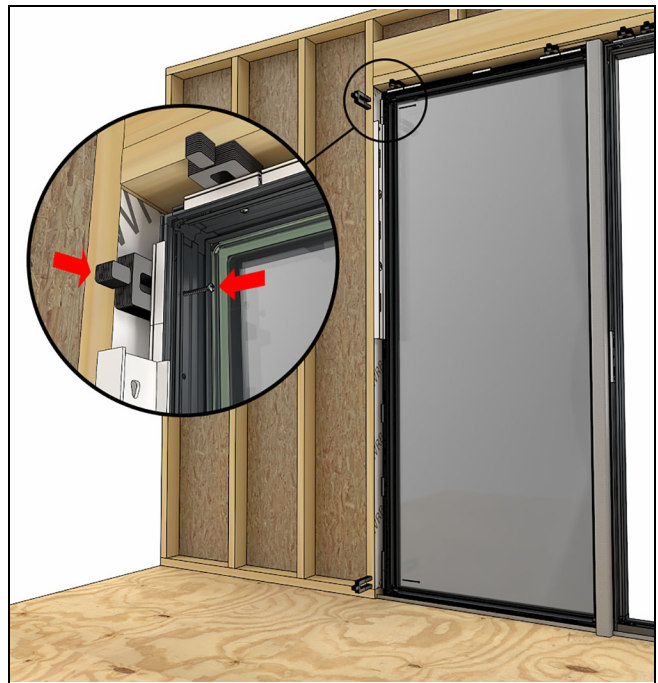

Figure 240
20. Square and plumb the second frame in the opening and then shim and fasten the jamb. See Figure 240.